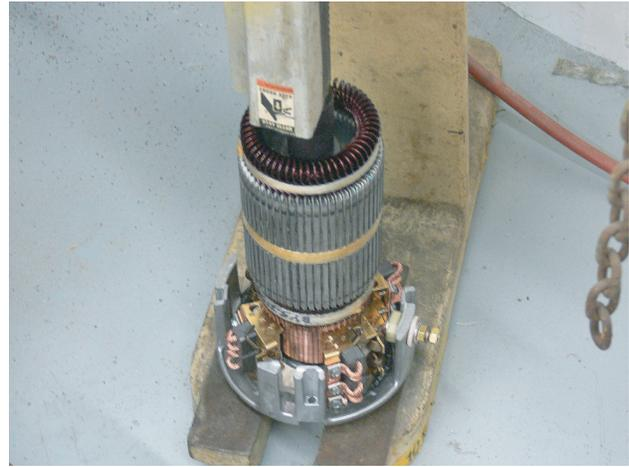

Figure 27-15 Armature Installation
3. With the brushes retracted, use an arbor press to press the armature shaft into the end cap bearing (**Figure 27-15, Page 27-12**). See following **CAUTION**.